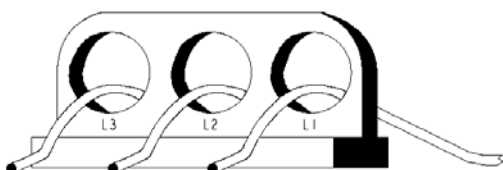

Figure 15 - Configuration A
- Configuration A: 1 set of leads, all through the toroid. See Figure 15 on page 165.